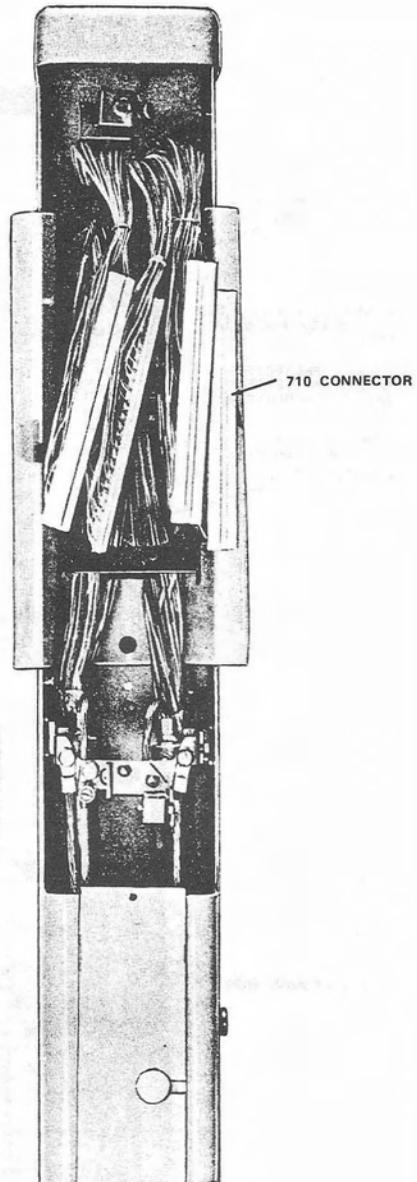

Fig. 22—Completed Splice in PC4/48 Cable Closure
6.06 Select the first 25-pair unit to be spliced from each cable, then select the corresponding pair from each binder group, cut the pair approximately 2.5 inches above the bonding bracket. Using 710-type connector, or other approved connectors, splice the pairs. For large pair size cables, stagger the 25-pair group to build the splice in layers. Figures 22, 23, and 24 illustrate a completed splice.